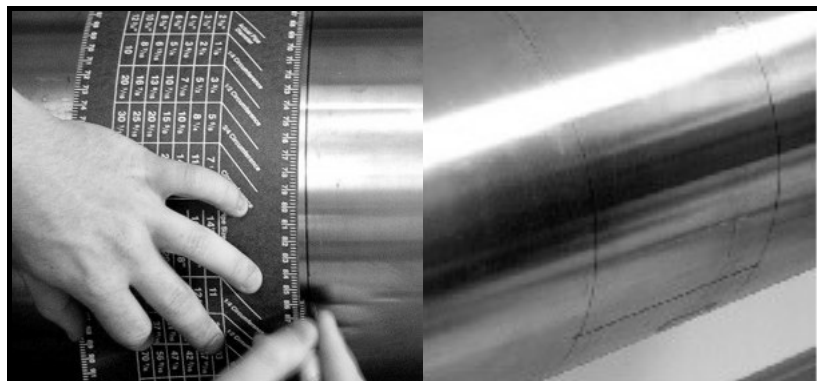

Figure 1-14: Marking the 9 o'Clock Position
4. To find the coinciding point on the opposite side of the pipe (180° away from each other), divide the measured circumference by 2 and measure this distance along the circumferential lines from the zero point, as shown in Figure 1-14 below. Place marks on both sides of the circumferential lines made with the layout wrap and connect the marks.